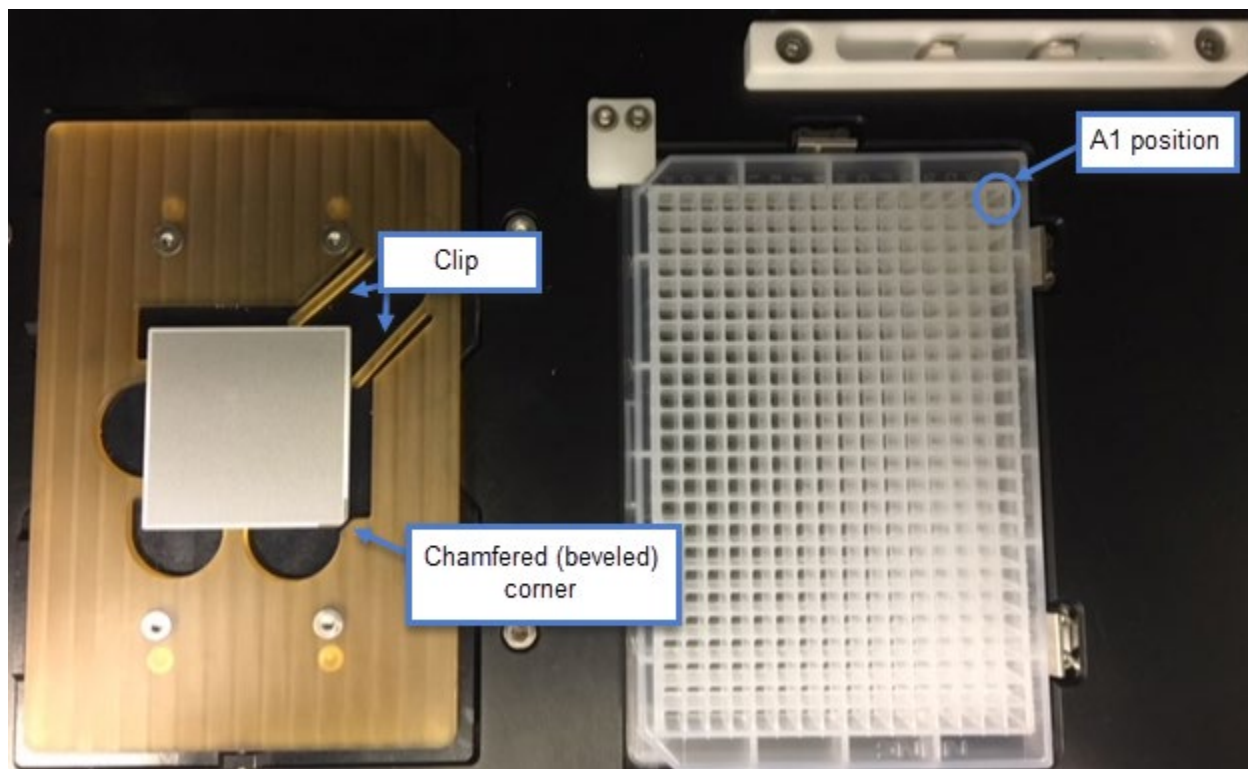

Figure 4. ICELL8 cx Single-Cell System Stage Module. (Left) chip nest. (Right) source plate nest.
- All dispensing steps in the ICELL8 cx Single-Cell System Stage Module should be performed with the chip oriented with the chamfered (beveled) corner positioned towards the lower-right corner of the chip nest (Figure 4, left).
- All dispensing steps in the ICELL8 cx Single-Cell System Stage Module should be performed with a 384-Well Source Plate oriented with the A1 well positioned at the top-right corner of the source plate nest. (Figure 4, right).